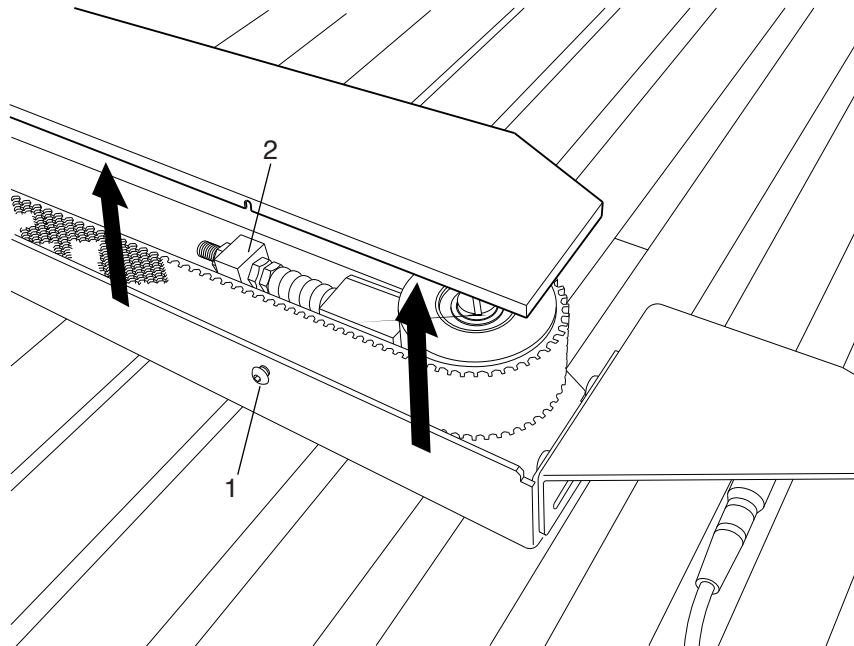

Figure 21 Remove Cover
- Replace conveyor belts (figures 21 & 22) when worn out or too loose. To replace a belt: